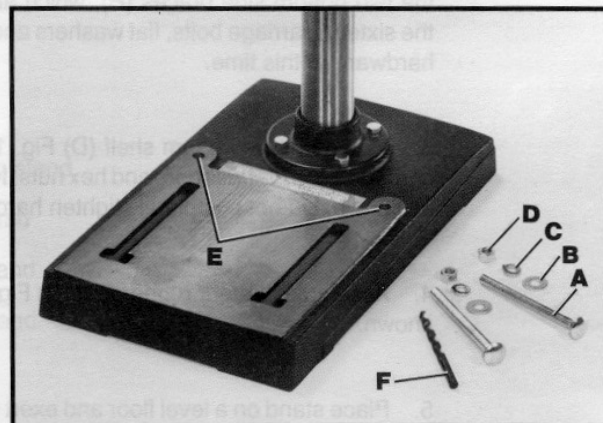

Fig. 12E
1. Fasten the drill press to a wooden stand or workbench using the two 5" long screws (A) Fig. 12E, flat washers (B), lockwashers (C) and nuts (D) supplied. The two holes (E) in the drill press base are used to secure the drill press to the wooden stand or bench. **NOTE:** A 3/8" drill bit (F) is supplied to facilitate drilling the holes in the wooden stand or workbench.